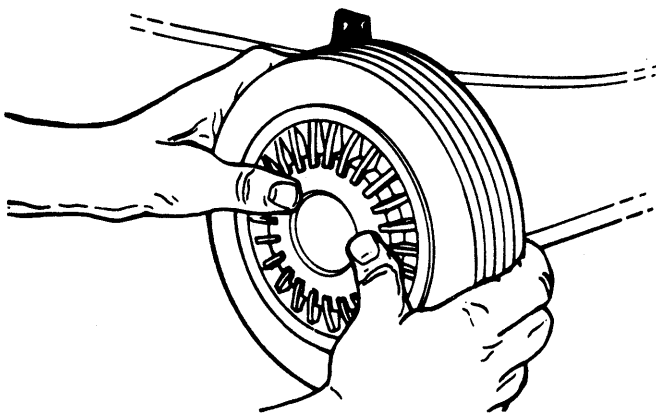

FIGURE 8.
- Attach hub caps (optional) to wheels by placing in position against the inner hub of the wheel. For units with 2" wide tires, press firmly around the center portion of hub cap in a circular motion, similar to installing a lid on a round, plastic container. See figure 8. The hub caps are flexible and will snap over the 3-1/2" diameter wheel hubs.